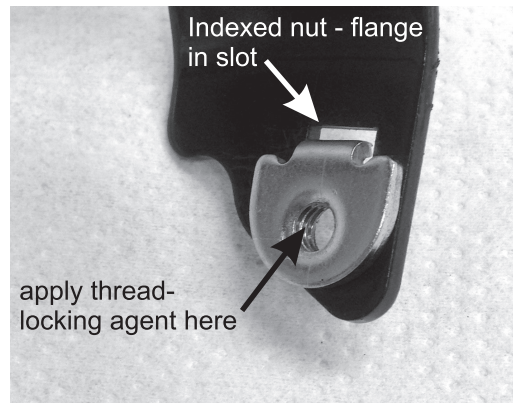

Figure 2
- Apply a small amount of thread locking agent to the threads of the stock indexed fender nuts removed from the rearward mounting holes earlier (see figure 2).
- First torque the front bolts to 18 ft/lbs. Make sure the stock indexed rear nuts have their flange back into their intended slots (figure 2) then, while pulling back and down on the Sissy Bar, torque the rear mounting bolts to 18 ft/lbs as well.